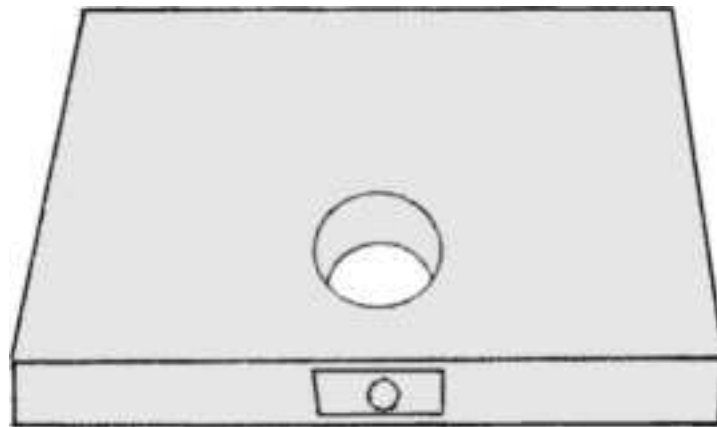

**Figure 13.137** Door section with the old lock and latch removed. (*M.A.G. Engineering and Mfg., Inc.* )
1. Remove the lock, latch, and all screws (Fig. 13.137 ).